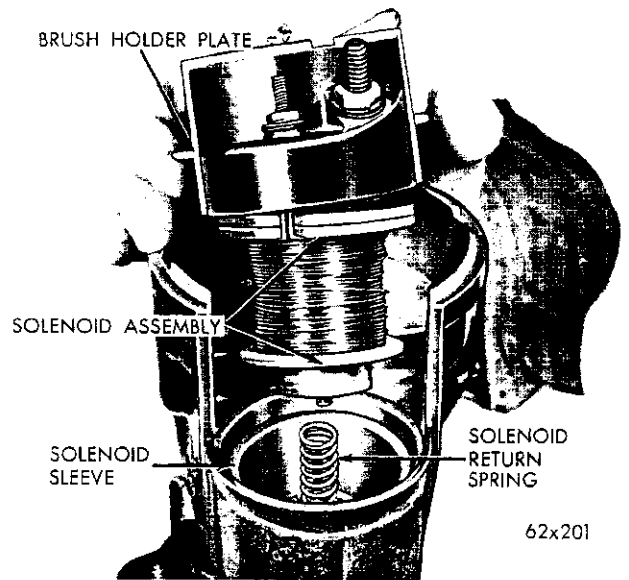

Fig. 23—Removing the Brush Holder Plate
(8) Remove the brush holder plate with the brushes and solenoid as an assembly (Fig. 23).
(16) Remove the solenoid return spring from the well of the solenoid housing moving core (See Fig. 23).
(9) Install the solenoid coil retainer washer.
(10) Install the solenoid return spring. (Refer to Fig. 23).